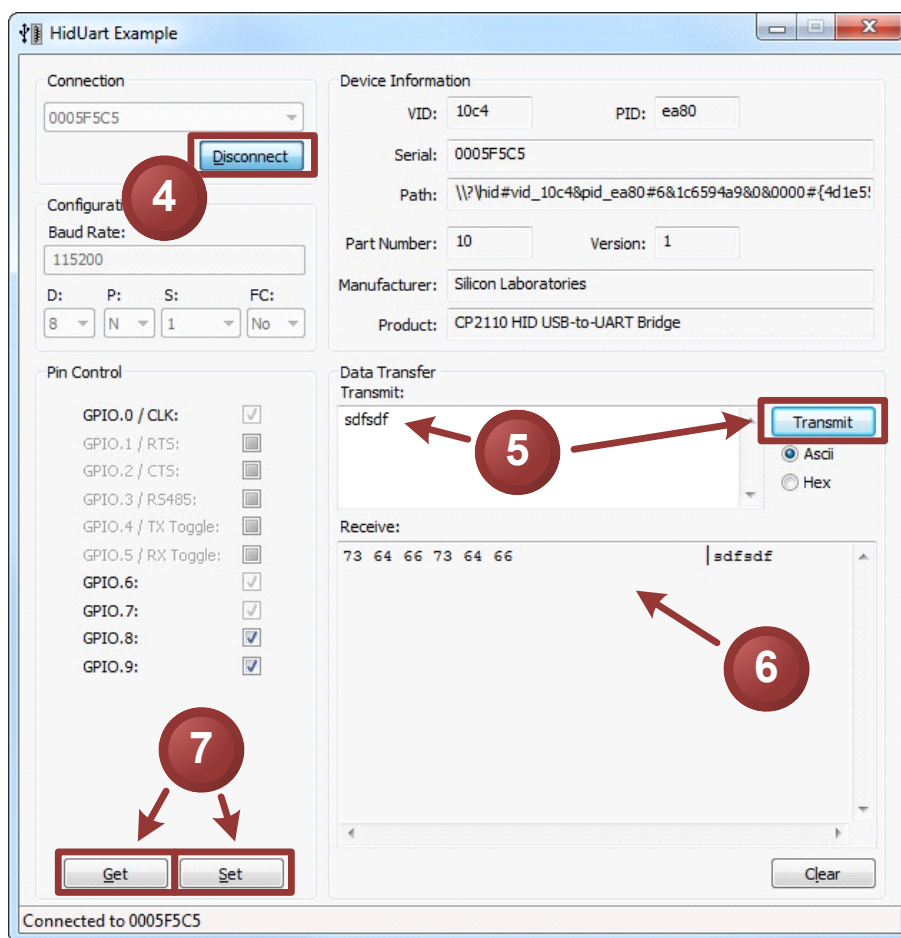

Figure 3. HIDUart Example Application after Connection
7. The HIDUart example automatically recognizes how the GPIO pins are configured and enables/disables the ability to change and read the pin. The default configuration is shown in Figure 3. Use the **Get** and **Set** buttons to read and write the GPIO pins' latch values. For GPIO pins that are configured as outputs, setting the pin to logic low 0 will turn on the corresponding LED on the CP2110 evaluation board.
- Updated Figure 3 with numbered steps matching the instructions in "6. CP2110 Windows Application".